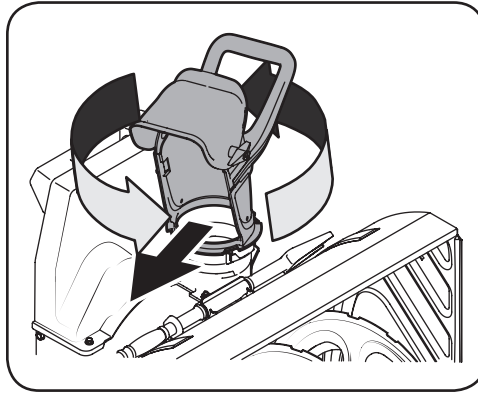

Figure 5-6
3. Rotate the discharge chute to the right as shown in Figure 5-6.